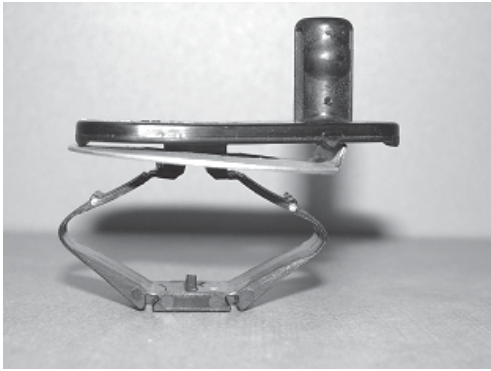

FIGURE 1
- 5) Install the washer/lock tab (part # 512300171) on the underside of the carpet with the “tang” pointing upward and aligned with the base of the floor mat hook as shown in figure 1 below. (Note: The carpet has been omitted from the photo in order to show detail.)